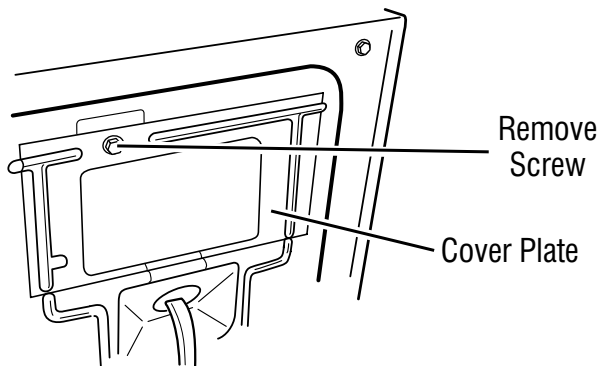

Figure 1 - Remove the cover plate.
2. Remove the cover plate from the top right corner of the back of the dryer. See figure 1.